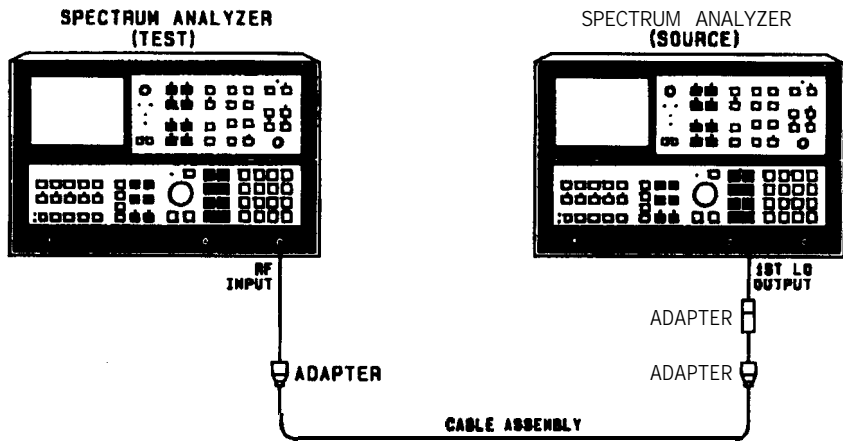

Figure 2-22. Noise Sidebands Test Setup
2. On one of the analyzers, connect the CAL OUTPUT to the RF INPUT. Press **(2 - 22 GHz)** then **(RECALL) (9)** and adjust FREQ ZERO control for maximum signal amplitude. Repeat this frequency calibration on the other analyzer. When completed, press **(2 - 22 GHz)** again on each of the analyzers.
3. Connect 1ST LO OUTPUT of source analyzer to RF INPUT of analyzer under test as shown in Figure 2-22.